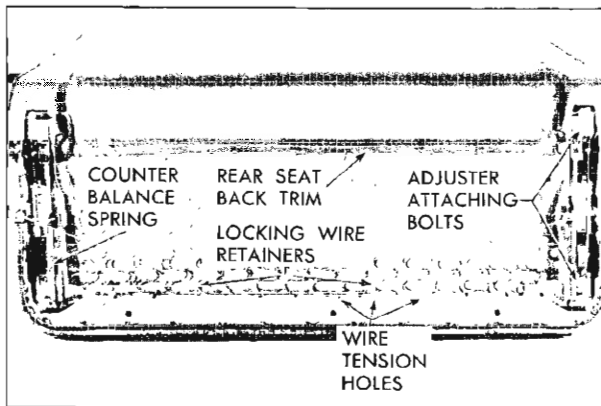

Fig. 17-1 Front Seat Adjuster Removal
2. Remove seat adjuster counter balance spring attached to seat adjuster front support and seat bottom frame as shown in Fig. 17-1.
5. Remove adjuster-to-seat bottom frame front and rear attaching bolts shown in Fig. 17-1 and remove seat adjuster from seat assembly.
7. If right adjuster does not lock or unlock satisfactorily when control handle on left adjuster is operated, disengage locking wire retainer on right side of seat from hole in seat bottom frame and engage retainer in one of adjacent holes to obtain proper tension in wire. (Fig. 17-1)
2. Remove hog rings securing central portion of lower rear edge of seat back trim from front seat cushion spring assembly (Fig. 17-1).